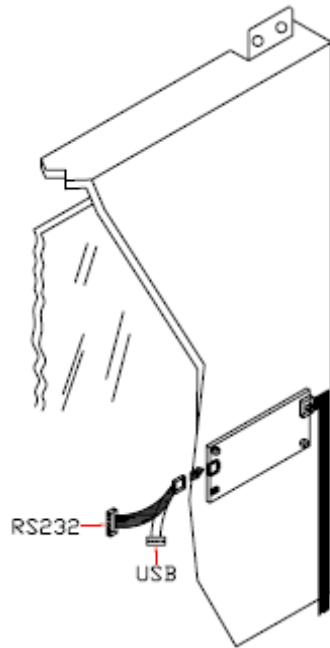

Figure 2
2. Reconfirm controller interface selection (RS232 or USB), Please see Figure 2.